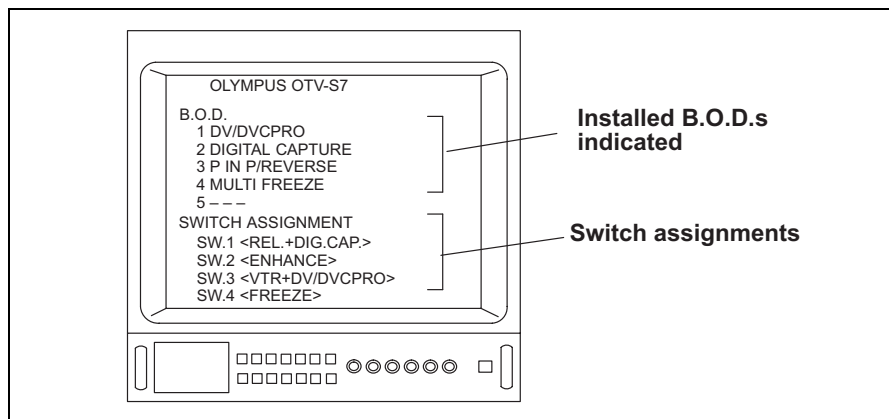

Figure 5.2
After the power is turned ON, the video monitor displays the menu (see Figure 5.2). If a camera head or videoscope is not connected to the OTV-S7V, a color bar is displayed after the menu is displayed.
- The “B.O.D.” menu displayed (see Figure 5.2) depends upon the installed B.O.D.s. For example, when using a type B OTV-S7V, only “DV/DVCPRO” and “DIGITAL CAPTURE” are displayed on the video monitor.
- The number of “SWITCH ASSIGNMENT” displayed (see Figure 5.2) depends upon the number of remote control switches on the camera head or videoscope. For example, when the OTV-S7H-N is connected, only “SW.1” and “SW.2” are displayed on the video monitor.